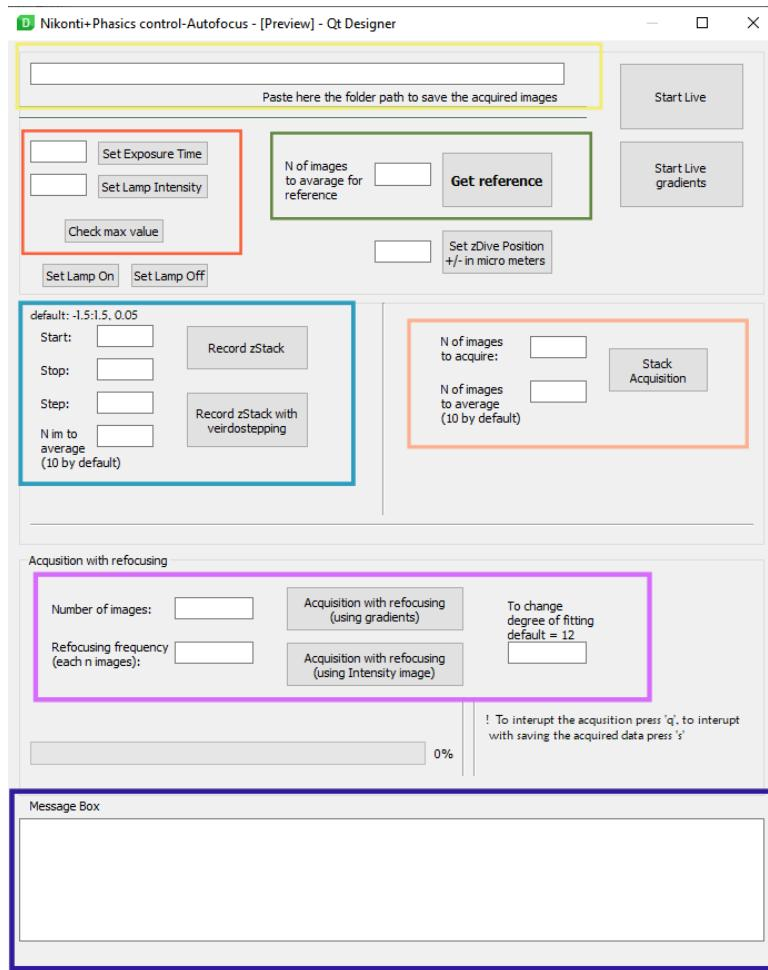

Figure 1: GUI window for transmission illumination setup
If the installation and MM initialization were successful, the GUI window should appear (figure 1). It is possible that you may encounter some issues; if standard troubleshooting methods (such as searching StackOverflow) don't resolve the problem, do not hesitate to contact me).
1. Create a folder where you will save all the acquired data, and insert the path into the line (figure 1, yellow box).
2. For reference, there are two important parameters to enter: Exposure Time and Lamp Intensity. Typically, the exposure time in our experiments was set to 80 ms, and the lamp intensity was adjusted to values between 7 and 8 (depending on the sample; if the tissue was thicker, the intensity needed to be increased). To properly adjust these values, you can use the "Check max value" button. The value will be displayed in the message box of the GUI. Ensure that there is no saturation, and it is preferable to keep the value around 40,000 to 50,000 (assuming 65,000 is the maximum) (figure 1, red box).
3. To acquire the reference, enter the number of images to average (typically set to 200) and press the "Get reference" button (figure 1, green box). During the reference acquisition, move the XY stage around the sample quickly; you may also slightly adjust the focus knob. The goal is to obtain an averaged wavefront from the specific sample. A new reference must be acquired for every new sample. The obtained reference will be displayed in the Napari Viewer. Ensure that the fringes of the interferogram are clearly distinguishable (ex: figure 1, b).
6. Once you defined the field of view it shouldn't be moved and the reference z-stack can be recorded. There are two possibilities: to record full z-stack, with regular stepping (by default = 0.05 μm) or to use weirdstepping (0.05 μm around 0 position in the range of [-0.4, 0.4] μm , and bigger steps (0.2 μm) further from it). There is also such parameter as "N im to average" (default = 10), can be changed if required (smaller will increase the speed) (figure 1, blue box).
7. **Acquisition with refocusing.** You will need to input the 'Number of images' you plan to acquire and the 'Refocusing frequency,' which determines how many images will be captured between each refocusing step. There are two methods available for refocusing: using gradient images (as described in the article) or using only intensity images. The intensity-based option was added to allow the software to be used even when the QLSI module is unavailable. In such cases, adequate autofocusing performance can still be achieved using standard EMCCD or sCMOS cameras with intensity images (see figure 1, purple box). A graph displaying the determined drift and the cross-correlation (CC) curve at each autofocusing step will appear, enabling you to monitor the system's performance.
acquisitions without active refocusing. (figure 1, orange box). It is recommended to not record too large stacks of images and to limit the acquisitions to 300 frames (*Note : for the moment the stacks are continuously saved into single file. It will be modified in near future*)
9. Important messages and descriptions of the actions being performed will be displayed in the 'Message Box.'(figure 1, dark blue box).